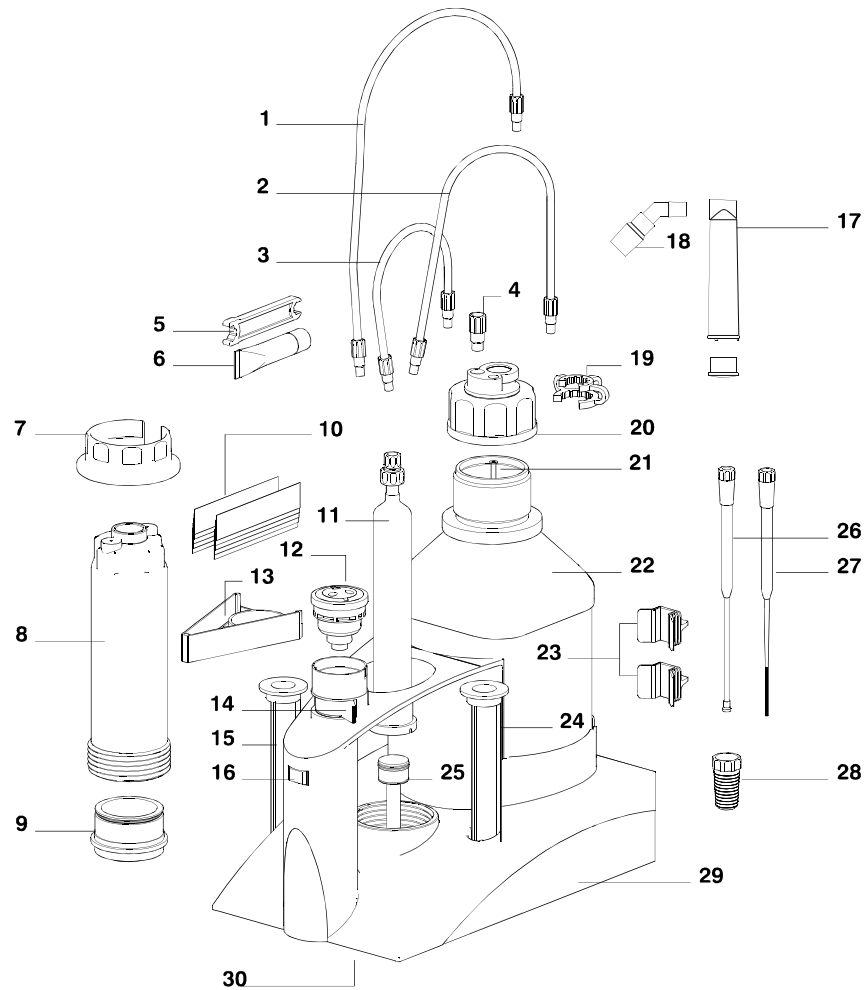

Figure 2 806 Exchange Unit - Single parts
- 3** Insert the stopcock into the holder (*see figure 2, page 9*).